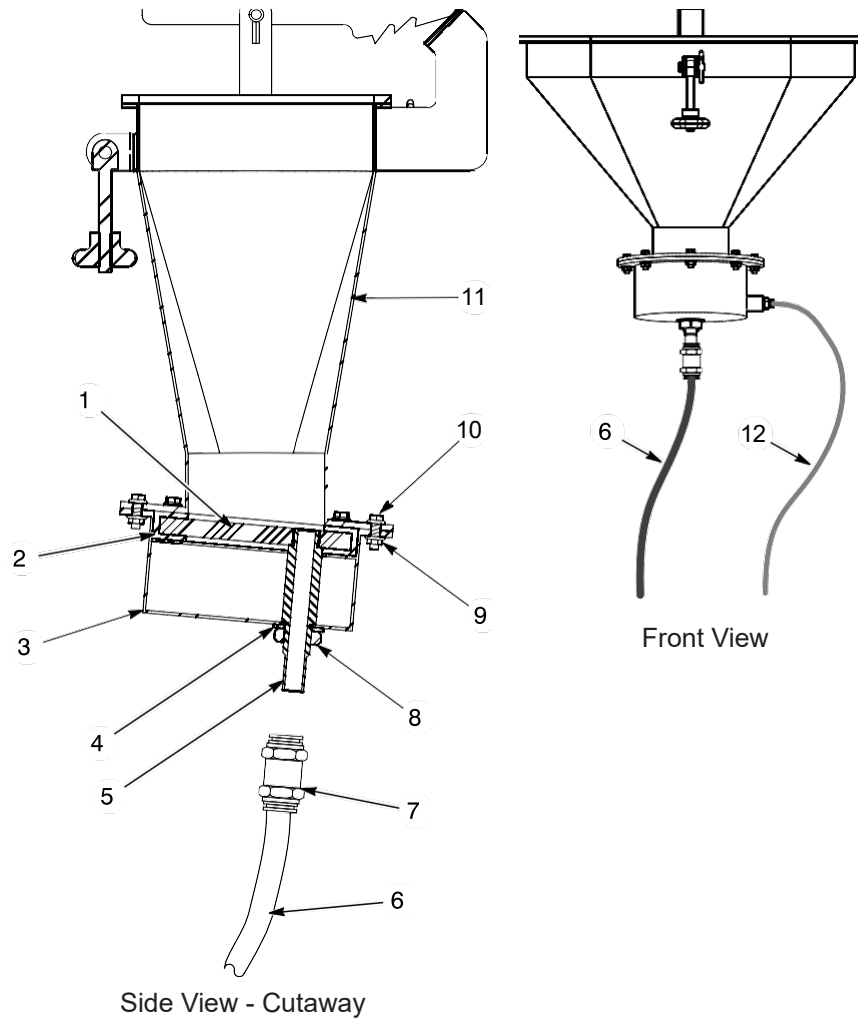

Figure 4-1 Cyclone Transfer Pan
1. See Figure 4-1. Disconnect the fluidizing air tubing (12).
2. Disconnect the 16-mm powder tubing (6) from the bulkhead union (7). Disconnect the bulkhead union from the discharge tube (5).
3. Remove the plenum (3) from the transfer pan (11) by removing the eight bolts (10) and nuts (9).
4. Remove the jam nut (8) and sealing washer (4) from the discharge tube. Use two wrenches: one on the flats of the discharge tube and the other on the jam nut.
5. Lift the fluidizing plate (1) with gasket (2) and discharge tube out of the plenum. Unscrew the discharge tube from the fluidizing plate.